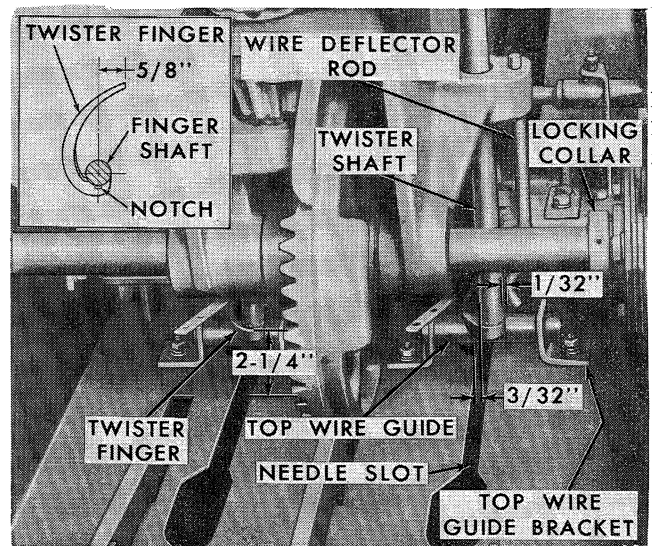

Figure 81
The wire twister shafts, Figure 81, should be adjusted so that a $\frac{3}{32}$ " clearance exists between the right side of the twister finger shaft to the left edge of the needle slot. Perform the adjustment as follows:
1. Measure the $\frac{3}{32}$ " dimension, Figure 81, from the right side of the twister finger shaft to the left edge of the needle slot.
1. Measure the 2-1/4" dimension between the top of the twister finger and the top of the bale chamber as shown in Figure 81. Then measure the 5/8" distance from the center line of the finger shaft to the tip of the finger point as shown in the Insert. The notches in the fingers should align with the needle slots.
A 1/2" clearance should be maintained between the forward edges of the top wire guides and the rear edges of the twister shafts, Figure 81. Adjust the guides as follows:
1. Measure the distance between the forward edges of the top wire guides, Figure 81, and the rear edges of the twister shafts to determine if a 1/2" clearance is maintained.
The wire deflector rods, Figure 81, should be positioned so that a 1/4" clearance is maintained between the bottom of the rods and the top of the twister fingers. A 1/32" clearance should be maintained between the rods and twister shafts. The adjustment can be obtained as follows:
1. Measure the distance between the top surface of the twister fingers and the bottom of the deflector rods. A 1/4" clearance should exist. Rotate the rods, if necessary, and measure the 1/32" dimension, Figure 81, between the rods and the twister shafts.